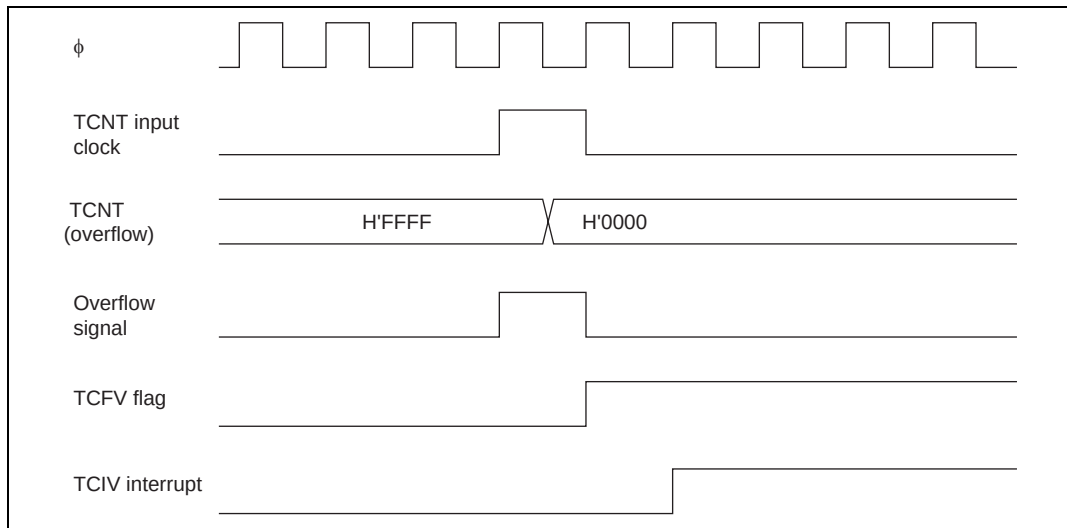

**Figure 9.44 TCIV Interrupt Setting Timing**
**TCFV Flag/TCFU Flag Setting Timing:** Figure 9.44 shows the timing for setting of the TCFV flag in TSR by overflow occurrence, and TCIV interrupt request signal timing.